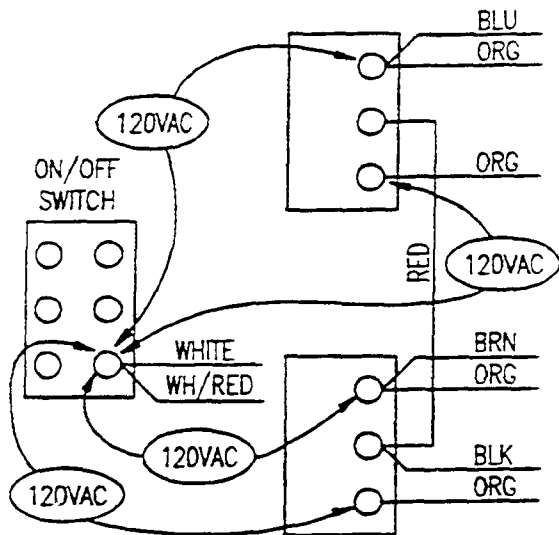

Figure 6-21. TIMED/MANUAL Switch
4. Refer to Figures 6-21 and 6-22. Check for 115/120 VAC from the TIMED/MANUAL switch BRN. ORG wire connection (top terminal) to the ON/OFF switch WHT, WHT wire connection (bottom right terminal).